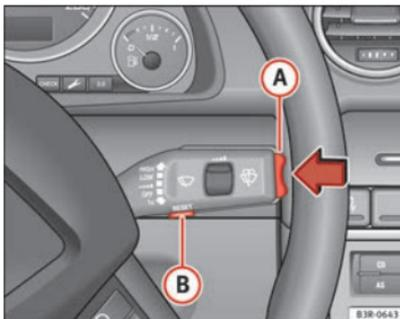

Fig. 61 Windscreen wiper lever: Onboard computer controls
Press RESET button **B** ⇒ Fig. 61 to switch back and forward between onboard computer functions 1 and 2.
The driving time warning can be switched off by briefly pressing the function selector switch or the **Reset** button → Fig. 61.
- Press the top or bottom of the function selector switch **(A)** → Fig. 61. This displays the functions of the onboard computer in sequence.